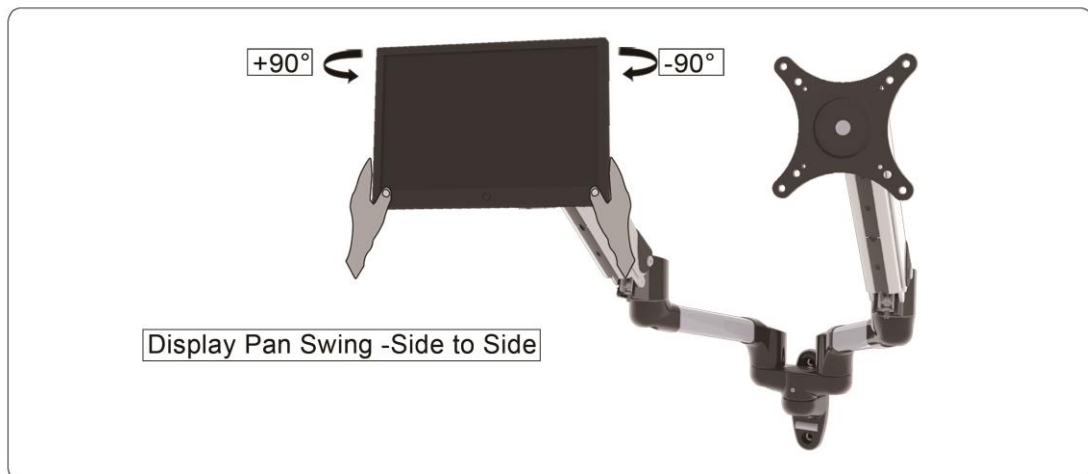

Figure 5-3
- This bracket features $\pm 90^\circ$ Swivel (See Figure 5-3).